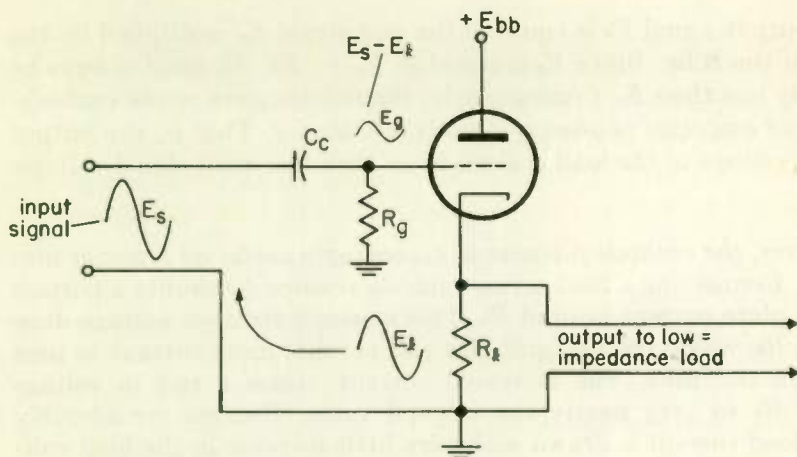

Fig. 10 A cathode follower amplifier.
- 10** THE CATHODE FOLLOWER AMPLIFIER . . . In the circuit of Fig. 10 the output load is connected across the cathode resistor R_k , and no capacitor is used to bypass this resistor. Thus, output power is taken from the cathode circuit instead of from the plate circuit as